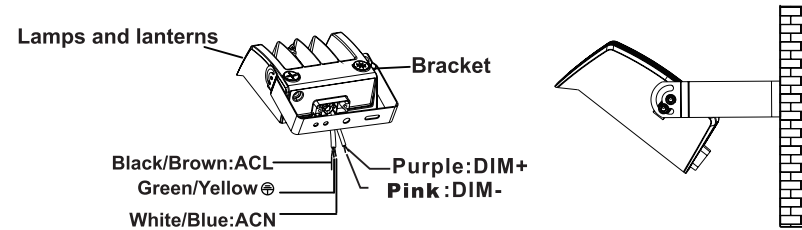

figure 4.3
Step 2: Finish the wire connection according to the right mode of connection (pay attention to positive wire, negative wire, and ground wire). (figure 4.3)